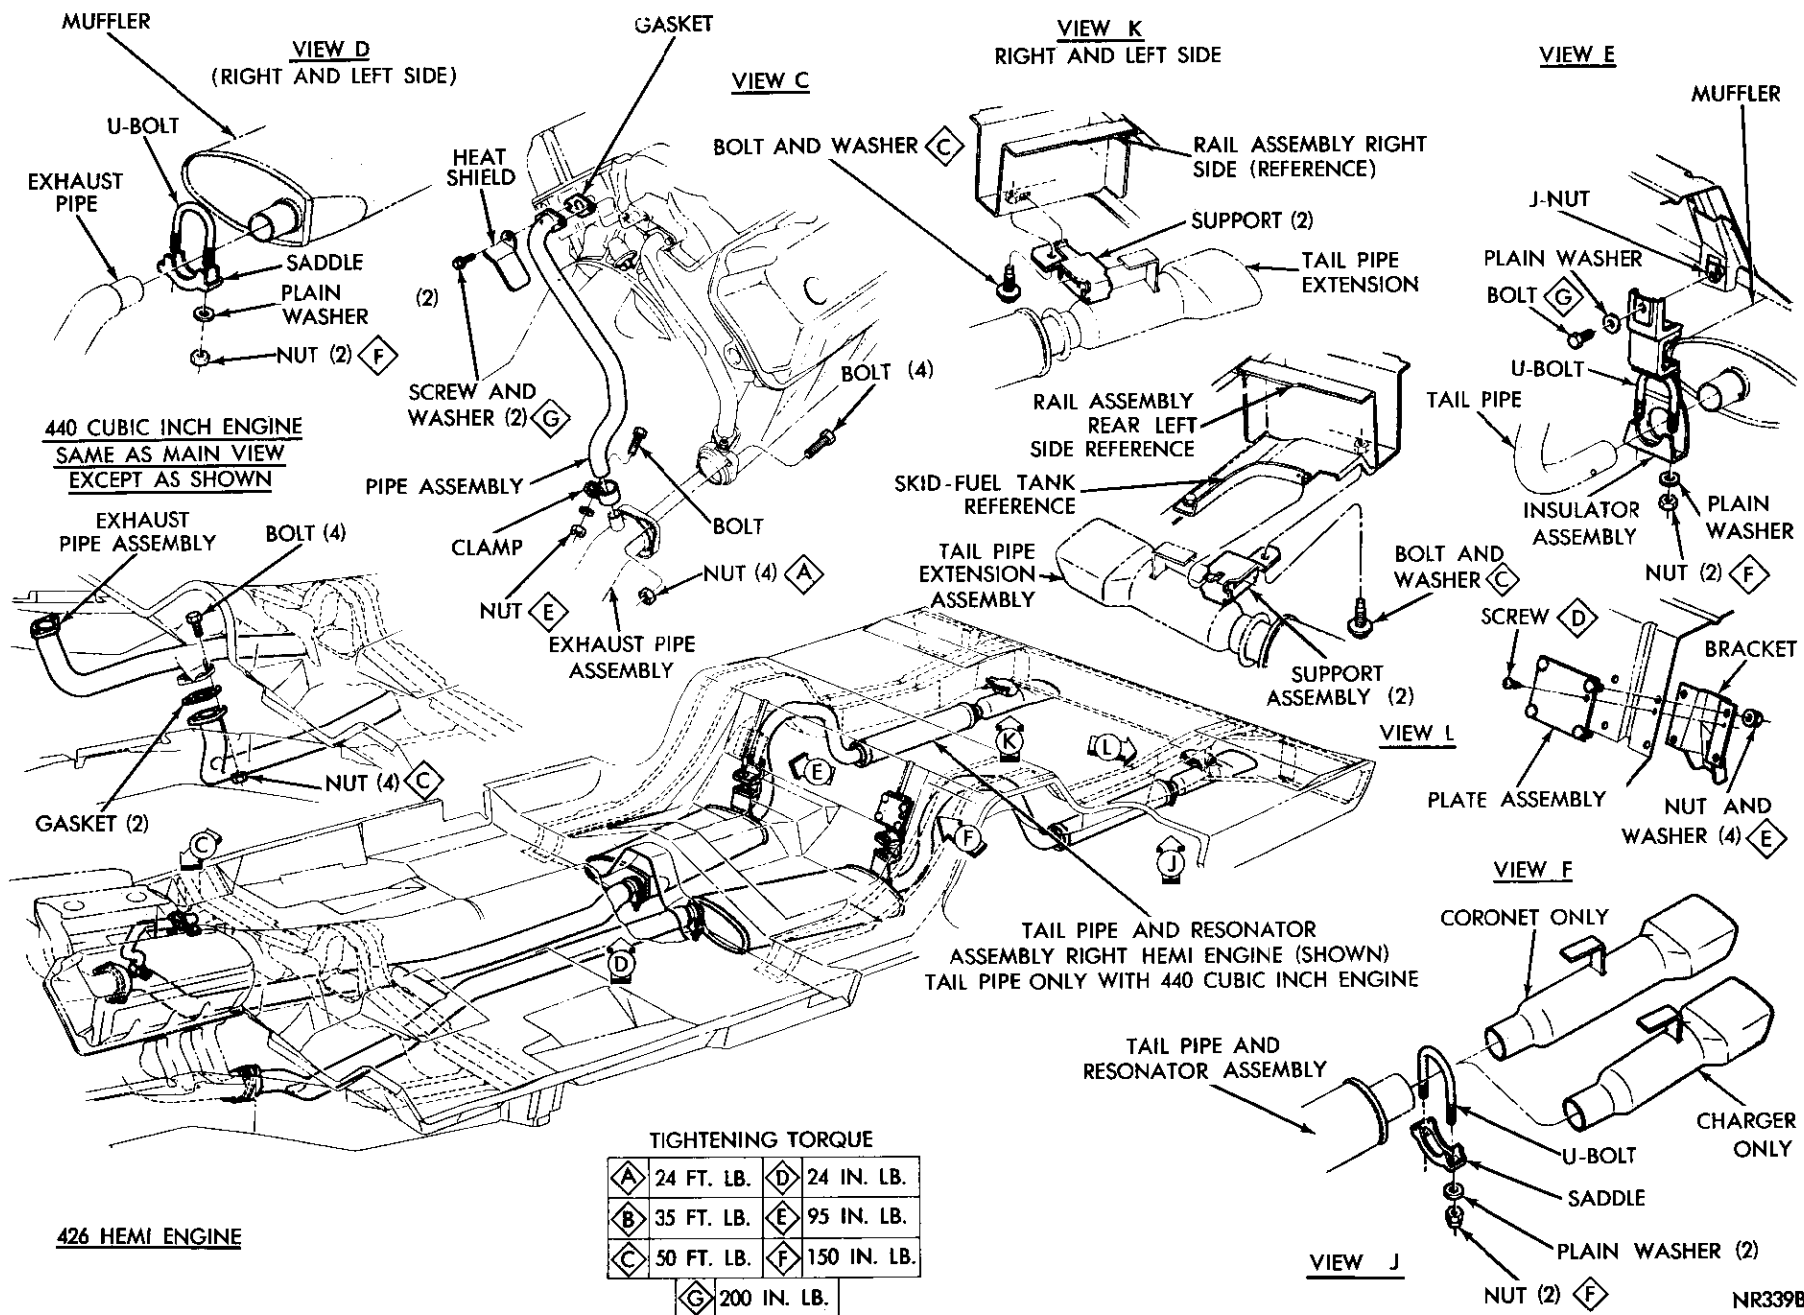

Fig. 5—Dual Exhaust System (426 Hemi, 440 Cubic Inch Engines)
The dual exhaust system used on Coronet and Charger models equipped with the 426 Hemi engine, uses an "H" type exhaust pipe arrangement (Fig. 5). The dual pipes are connected near the center by a
The dual exhaust system used on Coronet models equipped with the 440 cubic inch with Power Pak uses an "H" type exhaust pipe arrangement (Fig. 5). The dual pipes are connected near the center by a short crossover pipe. No ball joint connections are used in this system.
On models with the 426 Hemi engine, also remove heat tube clamp bolt, nut, clamp and heat tube from exhaust connection (Fig. 5).
(1) Assemble exhaust pipes, mufflers and tail pipes loosely to permit proper alignment (Fig. 5).
(2) Assemble exhaust pipes to exhaust headers, **but, do not tighten ball joint nuts at this time.**
(3) Adjust muffler and tail pipe supports to provide proper clearance with underbody and adjacent parts. **Do not fully tighten attaching bolts and nuts at this time.**
(4) Tighten front muffler slip joint U-bolt nuts to 150 inch-pounds.
(5) Tighten muffler and tail pipe attaching bolts to 150 inch-pounds, at same time maintaining proper clearance with adjacent parts.
(6) Tighten tail pipe U-bolt nuts to 95 inch-pounds.
(7) Tighten exhaust pipe ball joint bolt nuts to 24 foot-pounds.
(8) Install outlet heat tube on right hand exhaust pipe connection and secure with clamp, bolt, washer and nut. Tighten nut to 150 inch-pounds.
(1) Install exhaust system as prescribed for other models with the following additional steps:
(2) Insert extension bracket in rubber block in support assembly.
(3) Position "U" bolt clamp in place on extension, slide extension and support as an assembly on end of tail pipe until it bottoms (Fig. 5).
(4) Assemble support to side rail and tighten attaching bolt to 50 foot-pounds. Tighten "U" bolt clamp to 150 inch-pounds.